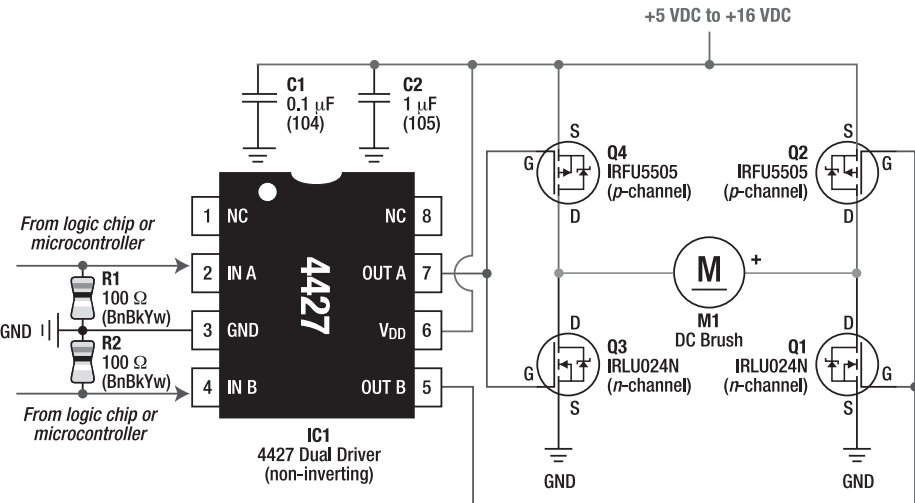
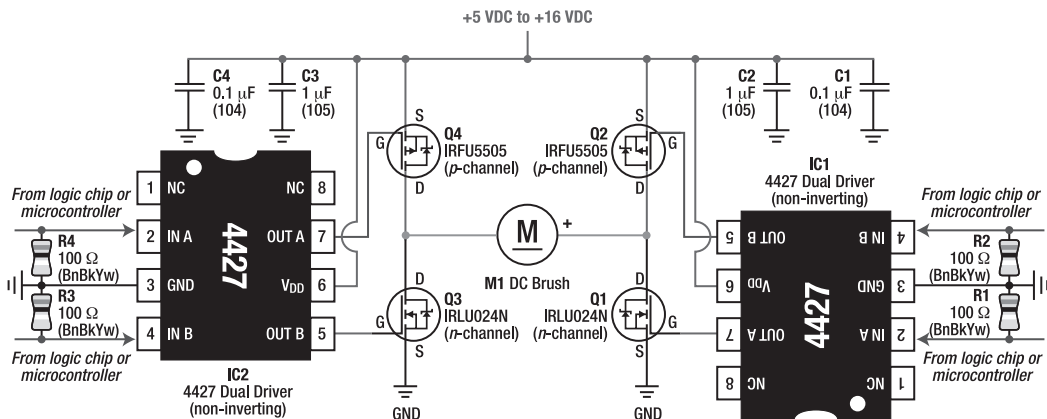
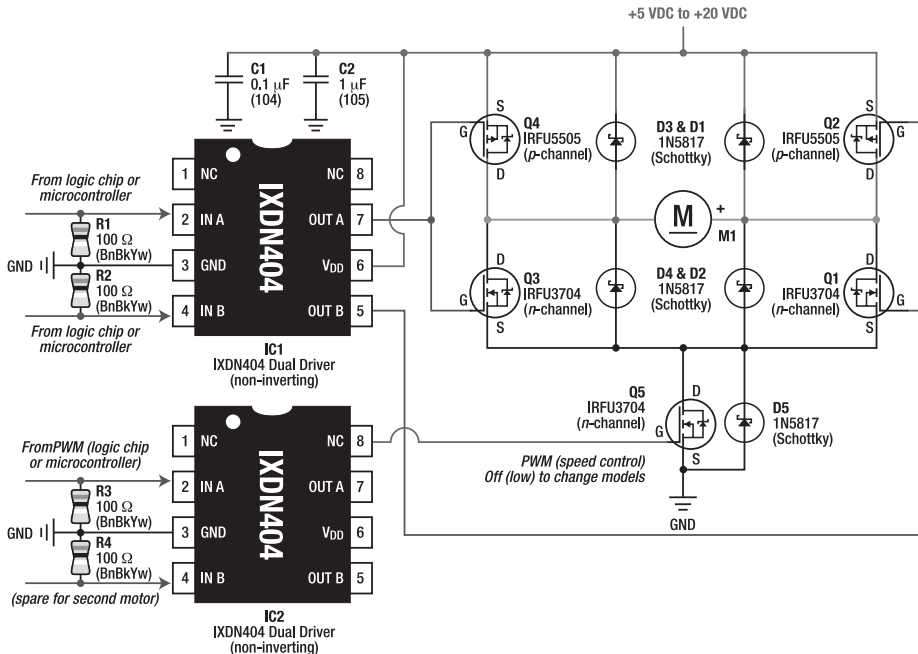

Figure 10-13. Schematic of a power MOSFET H-bridge interfaced via a 4427. This circuit has a shoot-through problem.
Figure 10-15. A discrete complementary power MOSFET H-bridge driven by two 4427 MOSFET driver interface chips
Figure 10-16. A discrete complementary power MOSFET H-bridge driven by one and a half IXDN404 driver interface chips and five transistors
Just like the PNP transistors in the bipolar H-bridge, the high-side (*p*-channel) transistors in the power MOSFET H-bridge must be brought up to the positive power voltage to be turned off. Just like with a bipolar H-bridge, you can use an open-collector chip, NPN bipolar transistors, or *n*-channel MOSFETs to drive the high-side gates of the MOSFET H-bridge from logic-level voltages. However, I prefer the 4427 chip for this purpose (see Figure 10-13).
There's a flaw in the circuit in Figure 10-13. Because both a high-side (*p*-channel) gate and a low-side (*n*-channel) gate are driven by a single signal voltage from the 4427, there's a short period of time that the *p*-channel and *n*-channel transistors are active at the same time.
The shoot-through problem isn't the kiss of death. In practice, connecting the gates of an *n*-channel and *p*-channel MOSFET usually functions adequately, despite brief moments of shoot-through. However, if the motor state is changed often (such as with PWM or a robot that changes directions a lot), use a design such as Figure 10-15 or Figure 10-16 to avoid shoot-through.
You can eliminate shoot-through by using a pair of 4427 chips (see Figure 10-15). You can now control each gate of the H-bridge individually. This has an additional advantage of being able to select motor coast mode by turning off all of the transistors at the same time.
Figure 10-16 is an improved version of Figure 10-13, in that shoot-through can be completely avoided. The new circuit supports all four motor modes, like Figure 10-15, while requiring one less pin and avoiding short-circuits (if you avoid shoot-through). Best of all, this new circuit is pulse-width modulation (PWM)-compatible for speed control. This is all accomplished by adding a fifth MOSFET (labeled Q5) to control the connection to ground.
You may also note that I made a couple of other changes from the original Figure 10-13 circuit:
- Switched Q1 and Q3 from an IRLU024N to an IRFU3704 for higher voltage rating and lower resistance (thus this circuit actually performs better than the original Figure 10-13, even with the added resistance of Q5); also, IRFU3704 turns on at a lower voltage, meaning it performs better than the IRLU024N when driven from a logic-level (5 V) output
When pulsed, this circuit switches between coast and spin. Some people prefer to pulse between brake and spin. To accomplish that, you'll need the full control that Figure 10-15 offers.